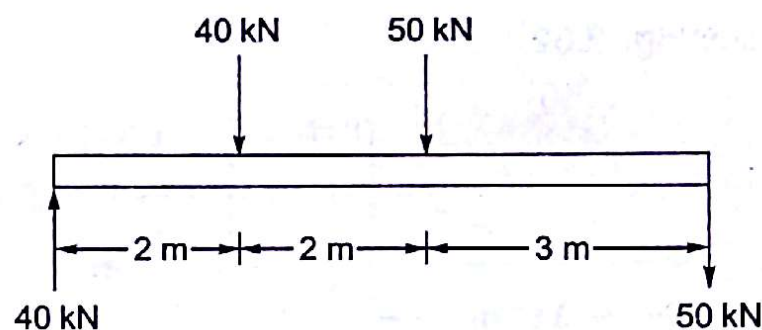

Fig. 2.31
2.13 What is the magnitude of the parallel force systems shown in the Fig. 2.31.